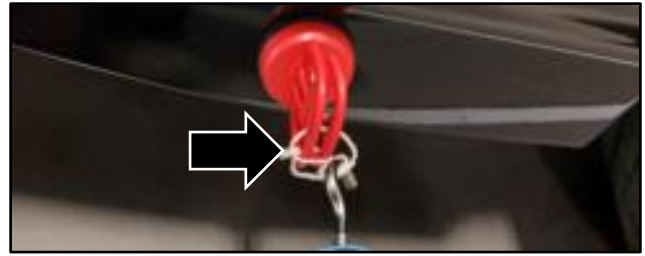

Figure 5
- Use a length of string to attach the weighing scale to the suction cup (refer to Figure 5).